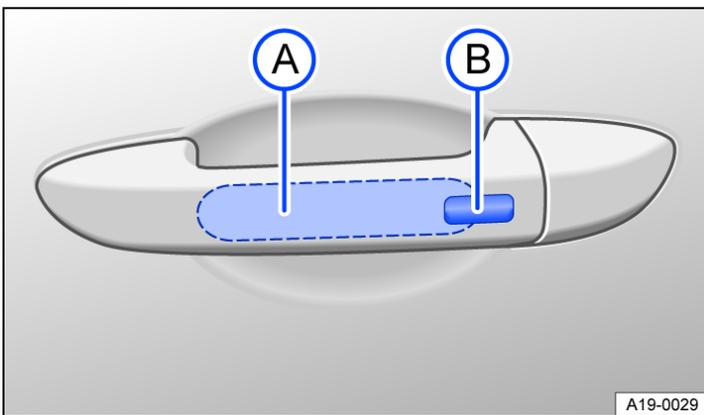

Fig. 2 In the door handle: sensors.
— Touch the sensor surface → Fig. 2 **A** on the inside of the driver or front passenger door handle.
— Touch sensor → Fig. 2 **B** on the outside of the driver or front passenger door handle.
- Then touch the sensor on the outside of the door handle → Fig. 2  once within five seconds. Do not put your hand around the door handle when doing this.